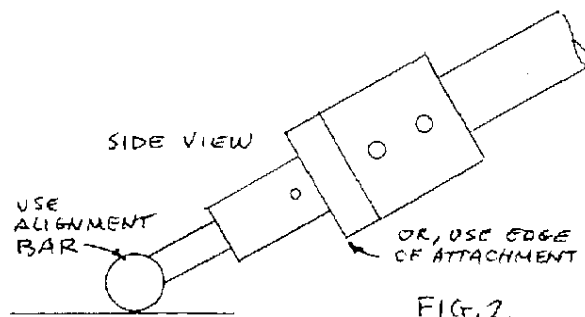

FIG. 2
d) Press the Alignment Bar flat against the lap [see fig. 2], that will cause the Attachment to turn within the Spindle--aligning the Attachment to the Index Gear. Now, tighten the two set screws (D) firmly. Set the Angle Dial to 90° as for girdle grinding.